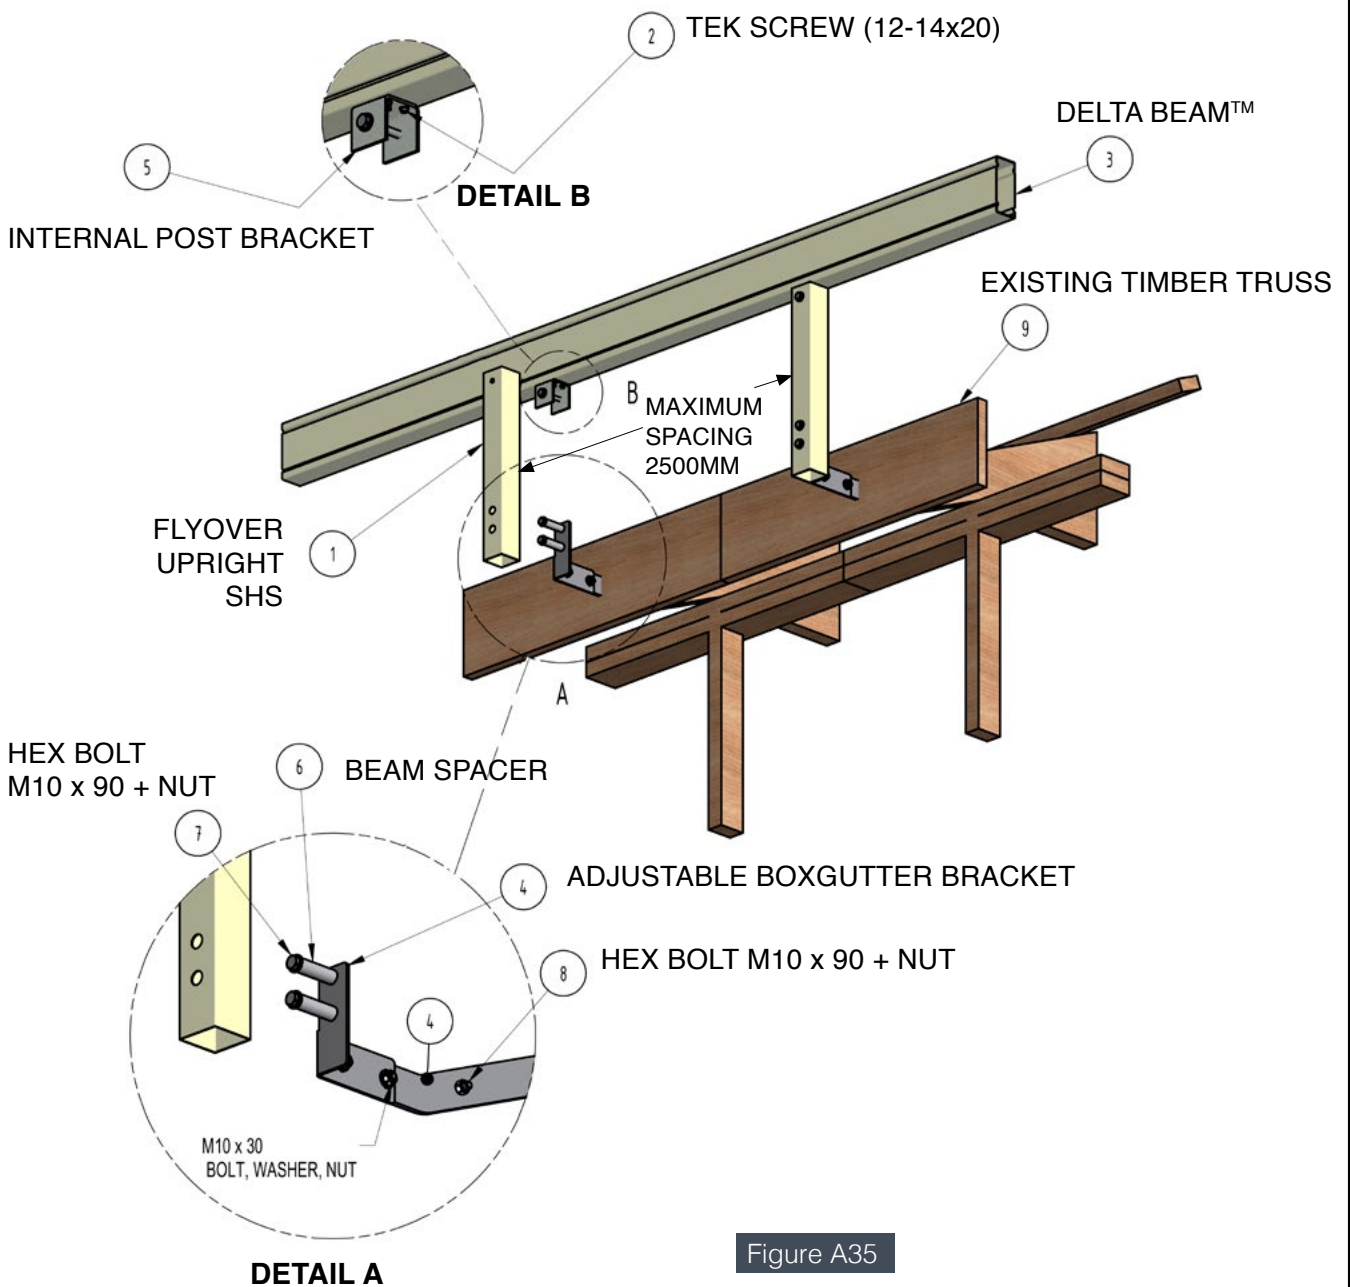

Figure A35
**Flyover with SHS Upright (See Figure A35)**